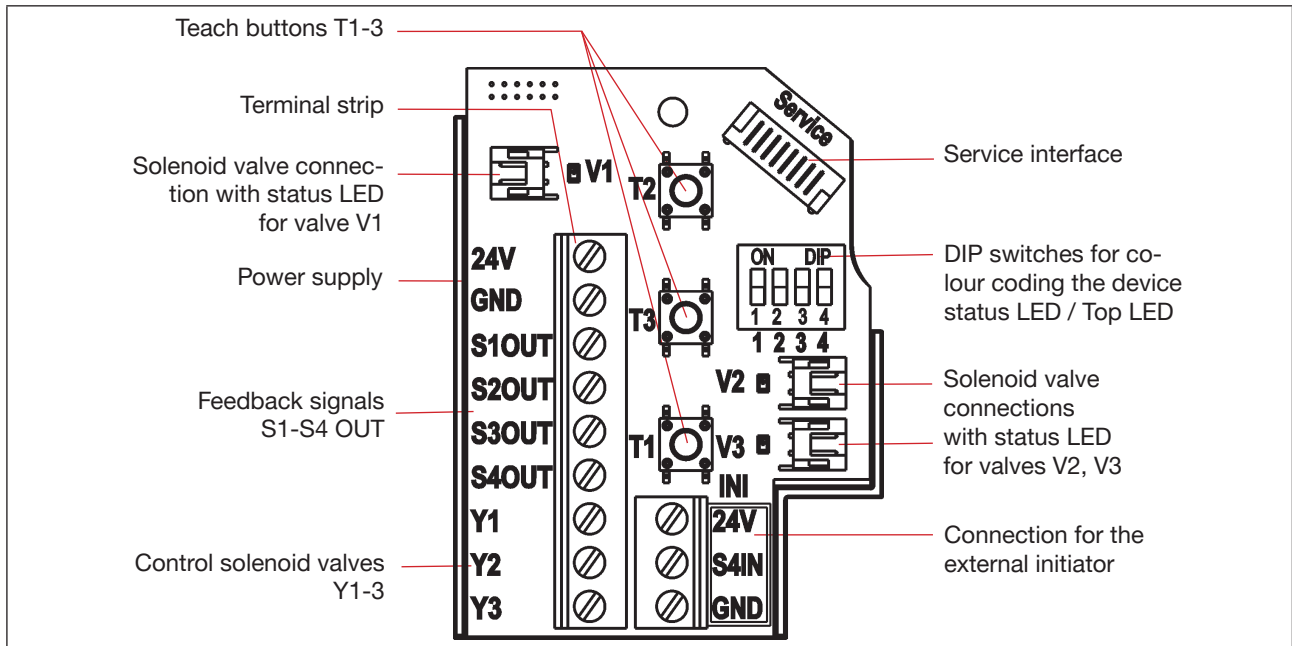

Fig. 15: 24 V DC electronic module
- Connect the wires to the connection terminals according to the connection configuration described in “Fig. 15”.